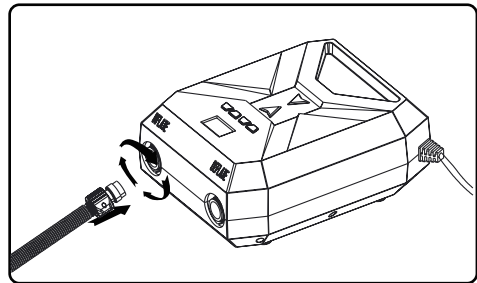

FIG 2
- Connect the opposite end of the hose with the nut to the air pump's inflation port and lock it by turning clockwise. (FIG 2).